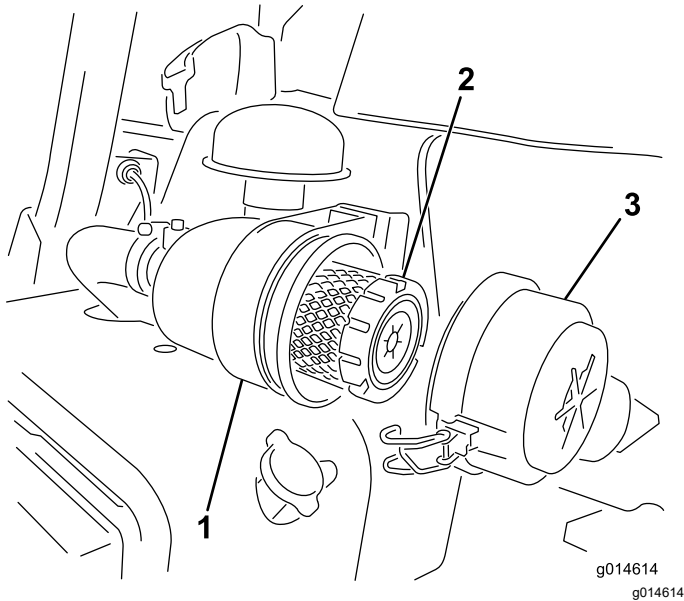

Figure 32
1. Release the latches securing the air-cleaner cover to the air-cleaner body (Figure 32).
7. Secure the latches (Figure 32).